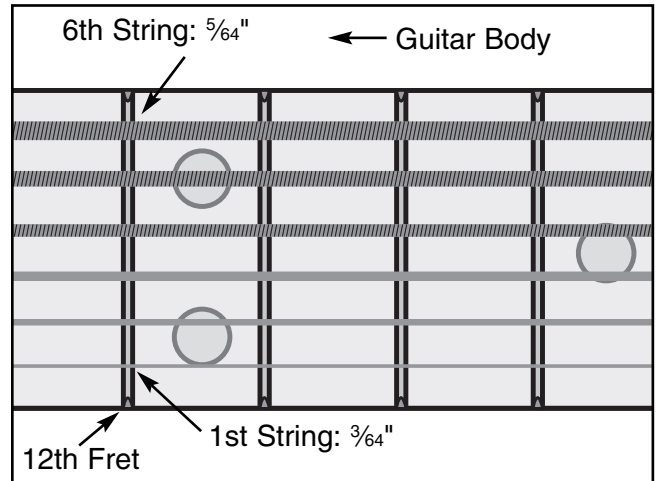

Figure 34. Correct 12th fret string heights.
1. Measure the string heights at the 12th fret (Figure 34).